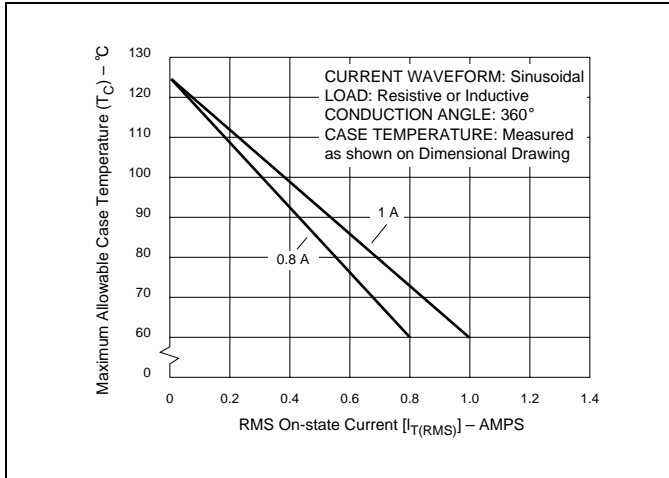
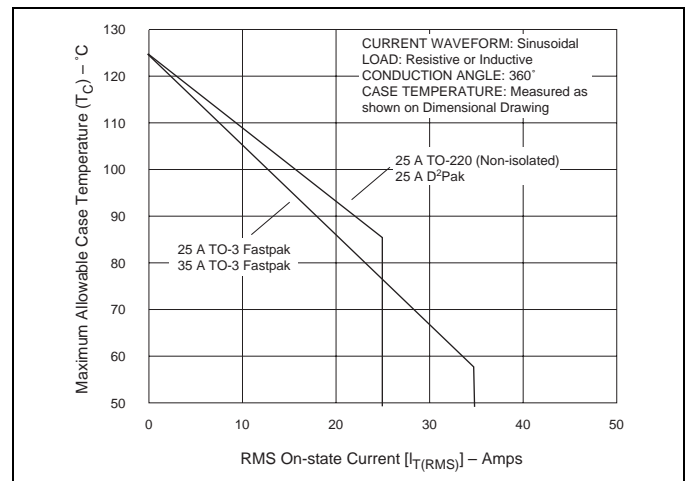
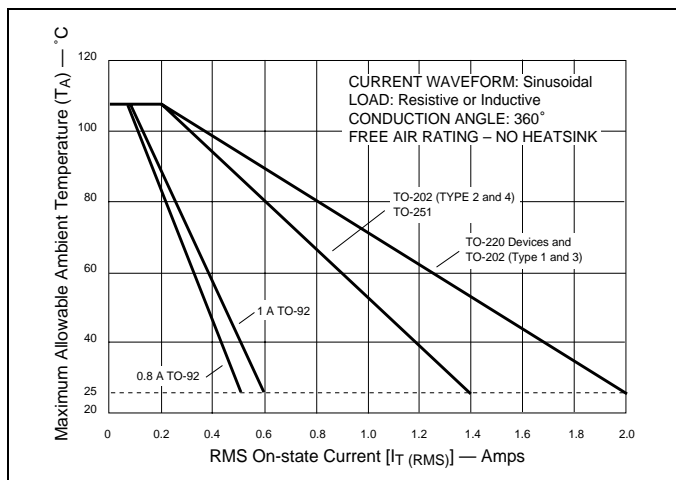
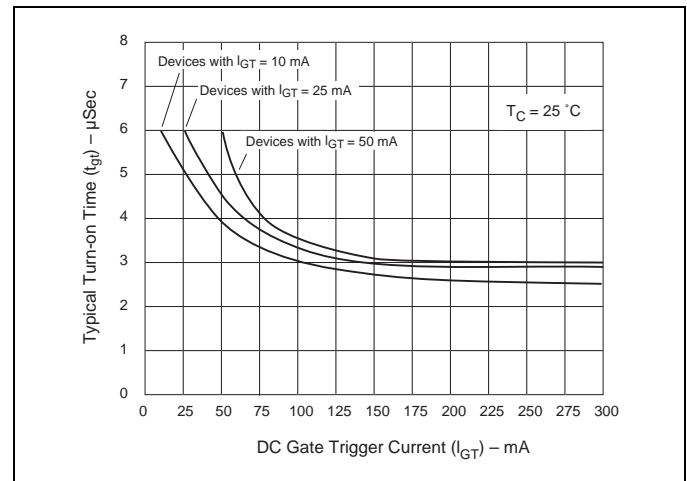

Figure E2.1 Maximum Allowable Case Temperature versus On-state Current (0.8 A and 1 A)
Figure E2.6 Maximum Allowable Case Temperature versus On-state Current (25 A and 35 A)
Figure E2.7 Maximum Allowable Ambient Temperature versus On-state Current
Figure E2.15 Turn-on Time versus Gate Trigger Current (Typical)
- (1) For either polarity of MT2 with reference to MT1 terminal
- (2) For either polarity of gate voltage (V_{GT}) with reference to MT1 terminal
- (3) See Gate Characteristics and Definition of Quadrants.
- (4) See Figure E2.1 through Figure E2.7 for current rating at specific operating temperature.
- (10) See Figure E2.15 for t_{gt} versus I_{GT} .
- (11) See package outlines for lead form configurations. When ordering special lead forming, add type number as suffix to part number.
- (12) Initial on-state current = 200 mA dc for 0.8 A to 10 A devices, 400 mA dc for 15 A to 35 A devices
- (13) See Figure E2.1 through Figure E2.6 for maximum allowable case temperature at maximum rated current.
- (14) Pulse width $\leq 10 \mu s$; $I_{GT} \leq I_{GTM}$
(18) Quadrants I, II, III only
(19) Minimum non-trigger V_{GT} at 125 °C is 0.2 V for all except 50 mA MAX QIV devices which are 0.2 V at 110 °C.